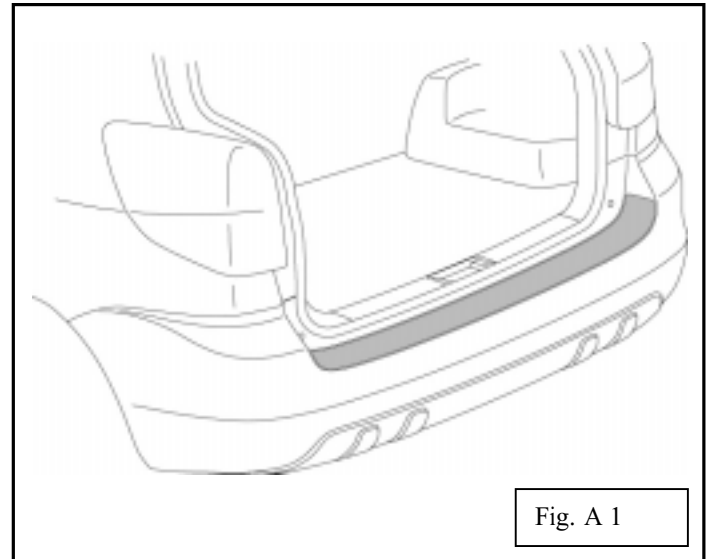

Fig. A 1
-  4. Saturate a clean lint free cloth with 3M™ Prep Solvent-70 and scrub the top surface of the rear bumper as shown in Fig. A 1.